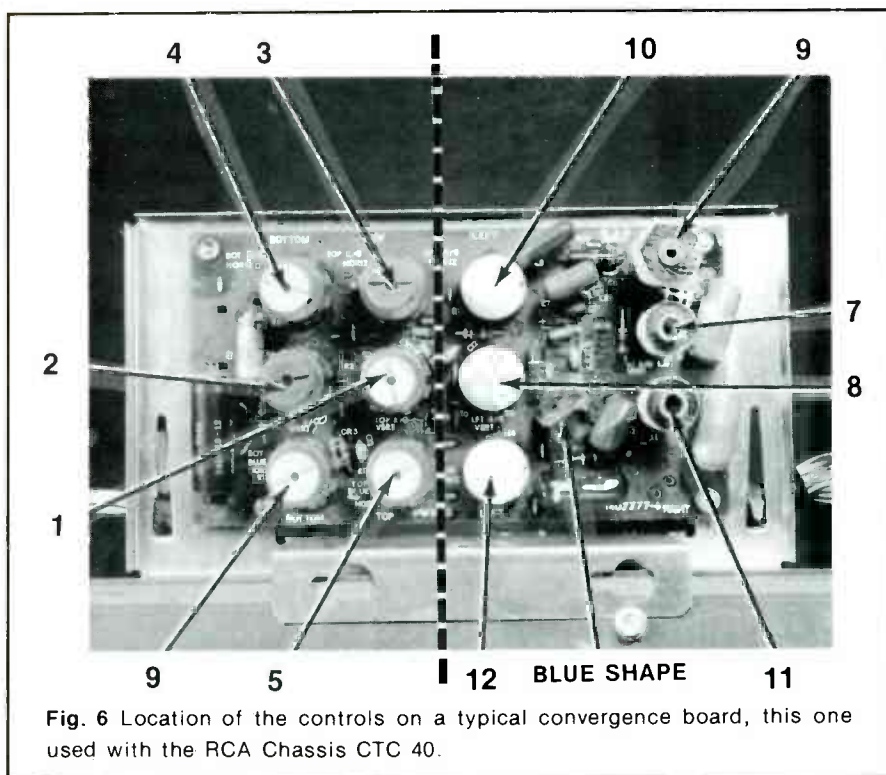

Fig. 6 Location of the controls on a typical convergence board, this one used with the RCA Chassis CTC 40.
5. Locate the 6 vertical controls on the convergence board either from the markings on the board or from Fig. 6, if the physical layout is the same. The 6 controls on the left are for vertical dynamic convergence, and the three controls and three coils on the right are for horizontal dynamic convergence. Some receivers have a blue "shape" or "droop" coil that is adjustable. Do **not** adjust this coil except as instructed in the text. Adjust the "top R&G vert lines" control (No. 1) so the red and green **vertical** lines at the **top** checkpoint are converged.